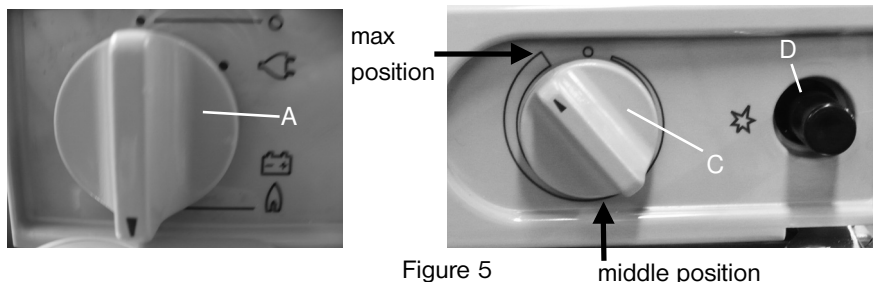

Figure 5
11. Igniting the gas burner (Fig. 5.)